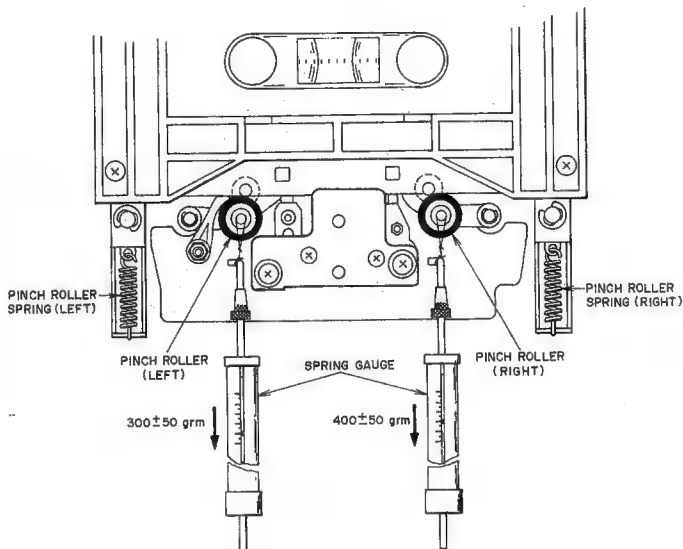

Fig. 8
5. PINCH ROLLER PRESSURE ADJUSTMENT (Refer to Fig. 8)
Load a cassette tape, set the recorder in the play mode, then pass a string around the pinch roller shaft and the spring gauge as shown in Fig. 8. Pull the spring gauge as indicated by the arrow mark in the figure until the pinch roller separates from the capstan. Then, gradually weaken the pulling force, and the spring gauge value when the pinch roller comes in contact with the capstan once again to start rotating. If the measurement value does not comply with the following values specified, replace the pinch roller spring.